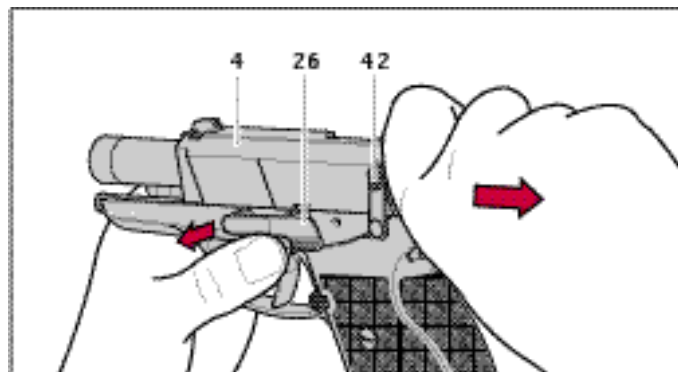

Fig. 9
6. With the right hand grasp the grip and slide. Press in the slide catch lever 26 from the right and pull it out from the left (Fig. 9).